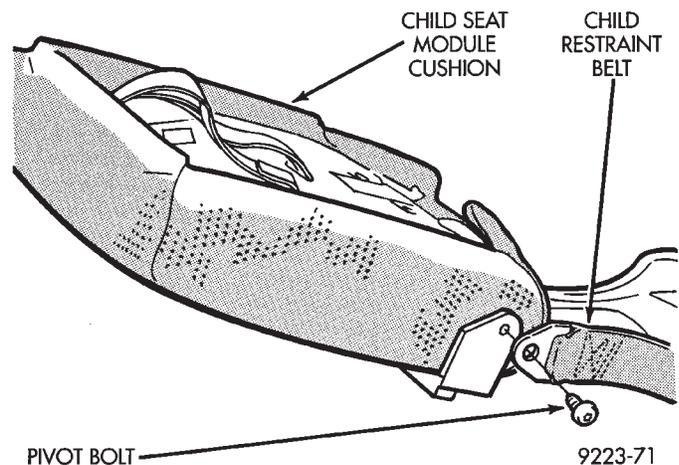

Fig. 30 Child Seat Cushion Pivot Bolts
- (1) Remove child seat module.
- (2) Remove bolts holding child seat cushion and restraint belts to module pivots (Fig. 30).